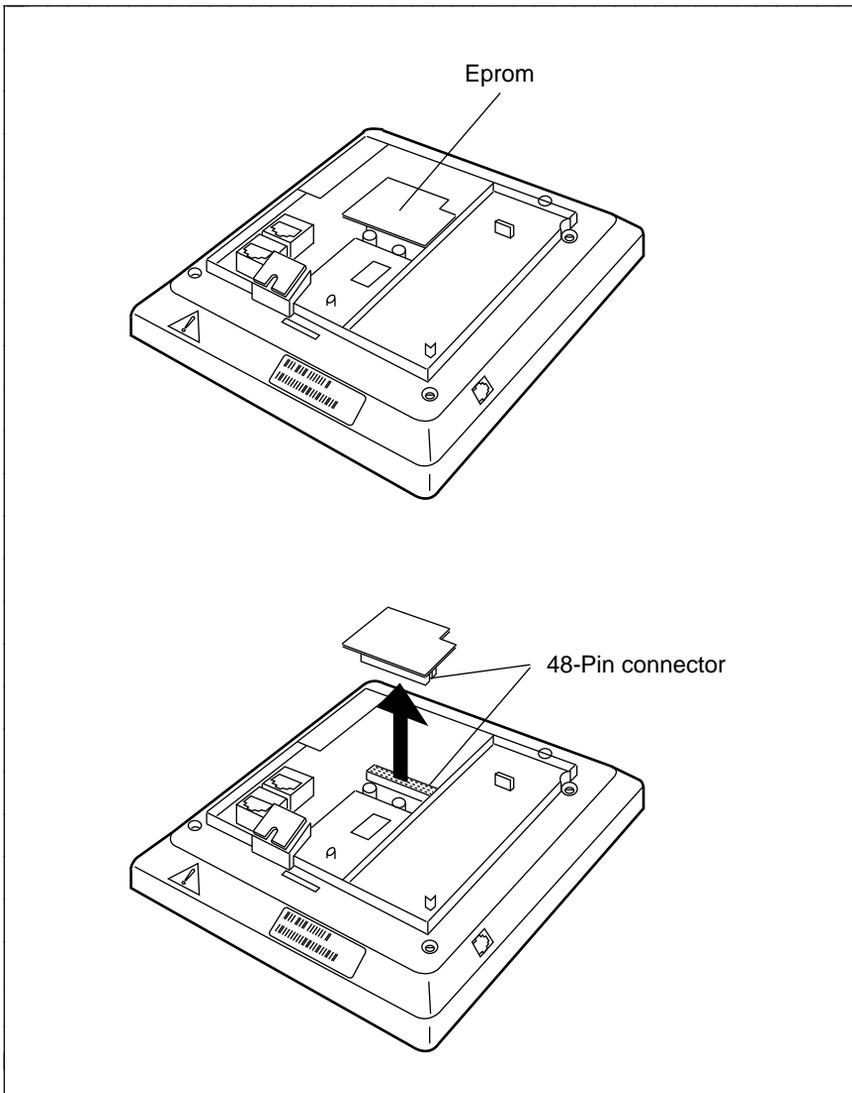

FIGURE 3 Changing the EPROM board on the 8510T Voice Terminal
The EPROM board is located near the top center of the base of the voice terminal. See **Figure 3** for the location of this board. Use the following directions to remove the present EPROM board and install the new one.
- Orient the new EPROM board, as shown in **Figure 3**, with the 48-pin connector facing down.